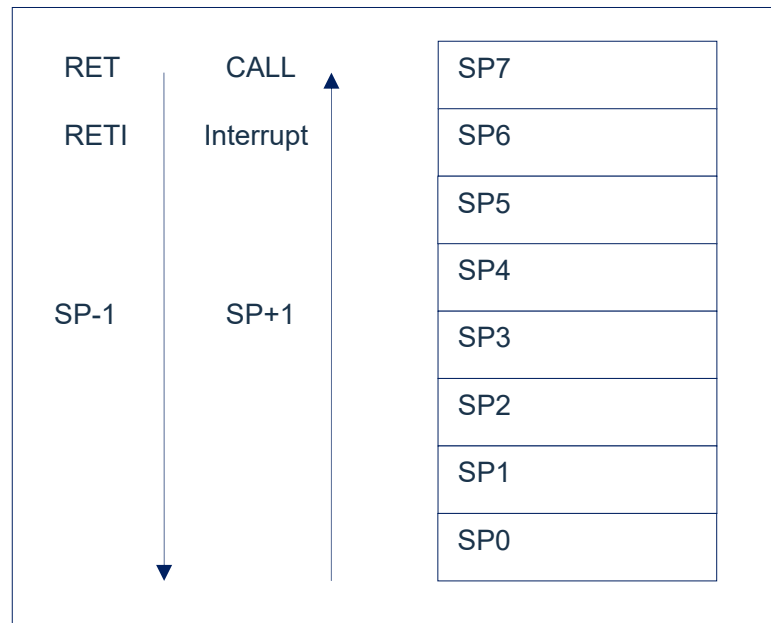

Figure 2-2: How the stack buffer works
The stack buffer of the chip has 8 levels. The stack buffer is not part of data memory nor program memory, and it cannot be written nor read. It is operated by the stack pointer (SP) and cannot be read out or written in, the stack pointer will point to the top of the stack after system reset. When a subroutine call or an interrupt occurs, values in the program counter (PC) will be transferred to the stack buffer. When returning from an interruption or subroutine, the values are returned to the program counter (PC). Figure 2-2 illustrates how this works.